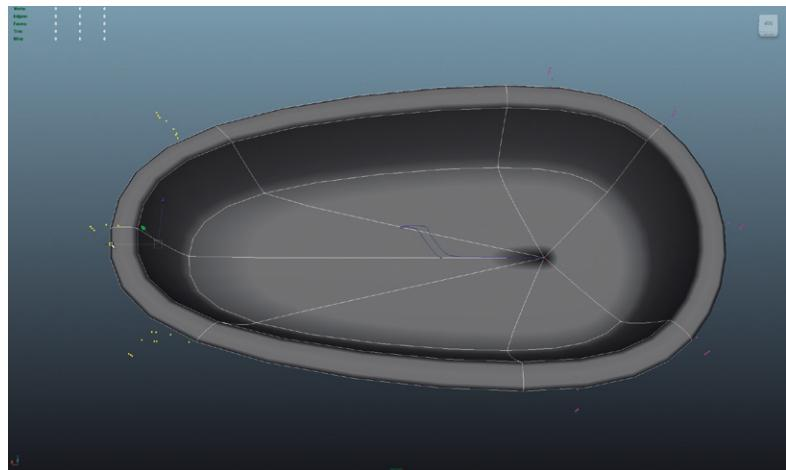

FIG 3.72 Adjusting NURBS surface by moving its Control Vertices.
Step 5: Adjust the surface via its Control Vertices. To do this, right-click on the surface and choose Control Vertex from the Hotbox. Suddenly, there will be lots of little pink squares floating just off the surface (these are Control Vertices (CVs for short)). With the Move Tool active, marquee around the CVs shown in Fig. 3.72 and move them along one axis to lengthen the shape.